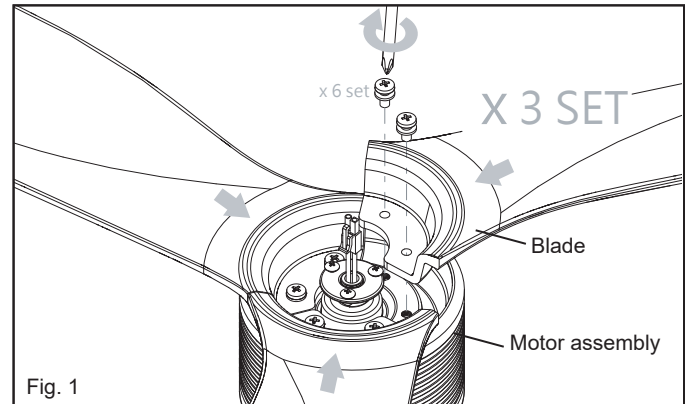

Fig. 1
- 1 Align the holes on the blade and the fan motor assembly and secure with the blade attachment screws. (Fig. 1)